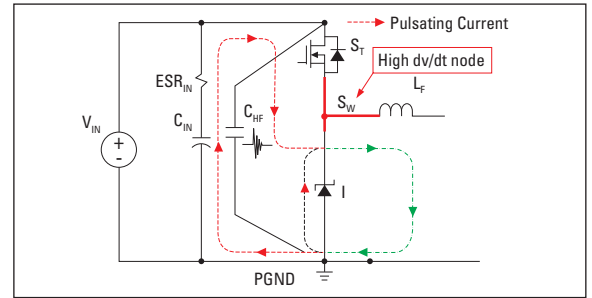

Figure 5
- 3: Input loop area should be kept as small as possible, which is shown in dash-red area of **Figure 5**. C_{in} should be connected with anode of catch diode directly.